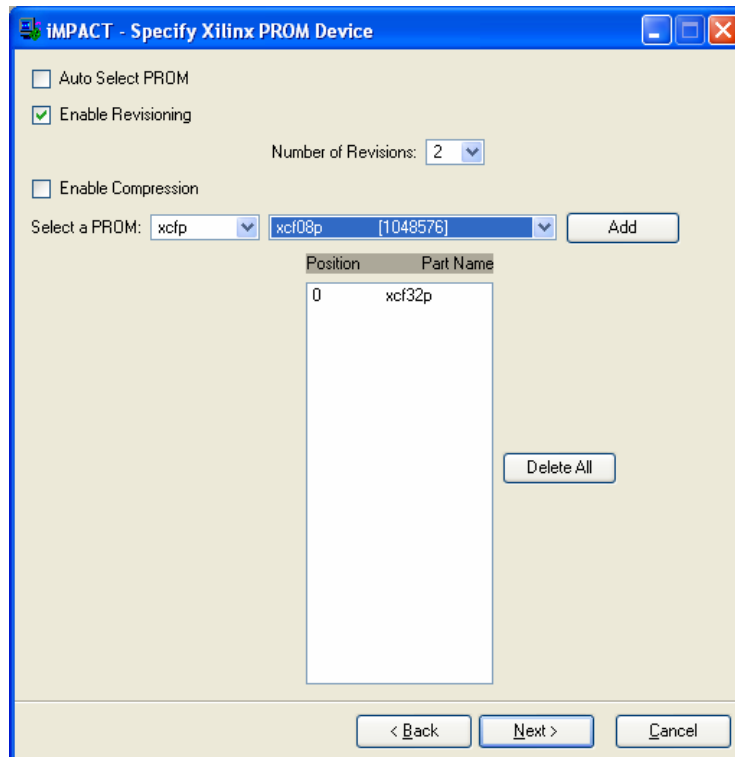

Figure 2: Xilinx PROM specifications
- On the next window – select Enable Revisioning and set the number of revisions to 2. This keeps the Golden Configuration in Revision 0 and lets you edit the Revision 1 to download you design, without erasing the Golden Configuration. The Prom we are using is the xcf32p. Select that and add it. DO NOT select 'Enable Compression'. This is shown in Figure 2. Click Finish.